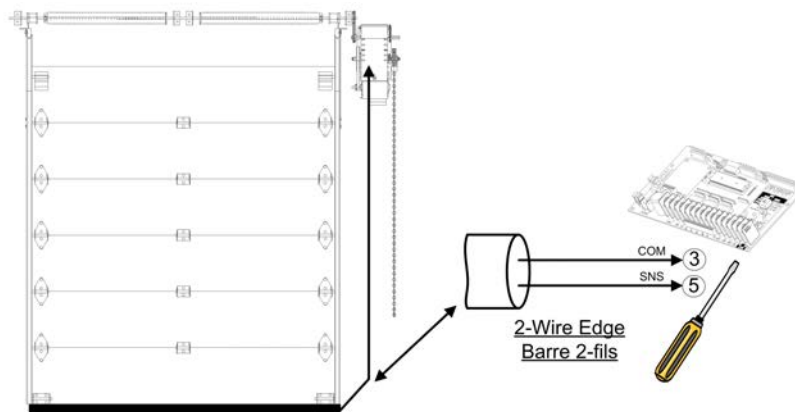

Figure 23 - Electric Reversing Edge
3. Use a coil cord or take-up reel to connect the sensing edge wires to the operator terminals. Install electric wires according to Figure 23.